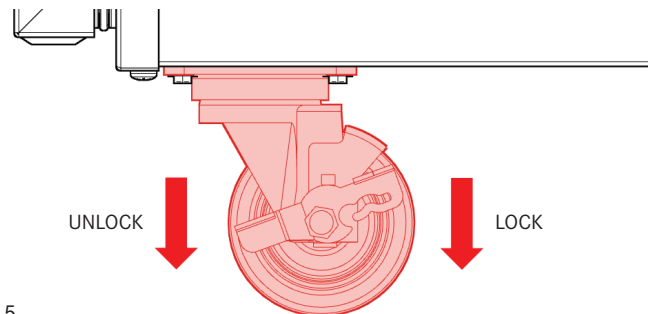

Fig. 5
8. Set the unit into position and lock casters in place (Fig. 5).